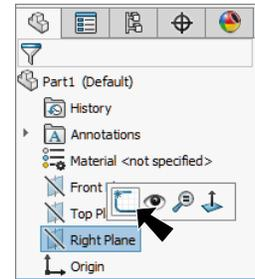

Fig. 1
Step 2. Click **Right Plane**  in the Feature Manager and click **Sketch**  on the context toolbar, **Fig. 1**.
Step 3. Click **Circle**  (S) on the Sketch toolbar.